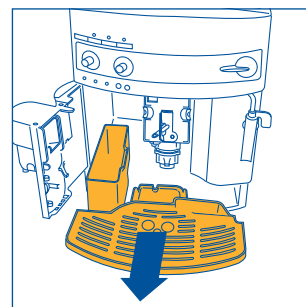

Fig. 16
NOTE 7: the machine counts the number of cups of coffee made. Each 14 single cups (or 7 double cups), the 🗑️ light switches on steady (section 12 point 3), warning the user that the grounds container is full and must be emptied and cleaned. Until the grounds container has been cleaned, the light will remain on and the machine cannot deliver coffee. To clean the container, open the service door on the front (pulling the handle, Fig. 15), the ⚠️ light flashes (see section 12, point 9); remove the drip tray (Fig. 16), empty and clean. Empty and carefully clean the grounds container, making sure to remove all the residue that may be deposited on the bottom. Also, dry off any condensation that may have formed that may have formed inside the machine under the drip tray. **IMPORTANT: when removing the drip tray, the grounds container MUST be emptied, even if it is not completely full. If this is not done, when making your next coffee, the grounds the grounds container may fill over the maximum level and block the machine.**
- remove the drip tray and the grounds container (Fig. 16) and clean them;